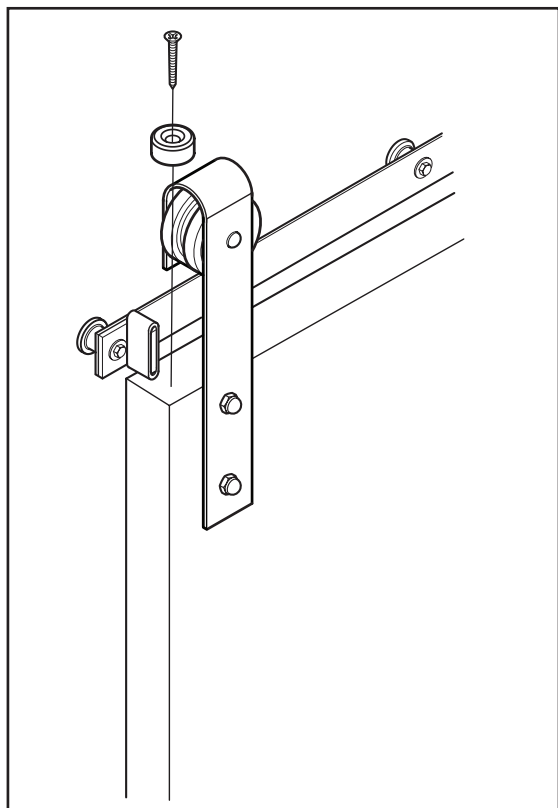

Figure 10
21. Place the Anti-Jump block on the top of the door (Figure 10). Using a drill with a phillips bit, install the the block with the 1" phillips screw (provided).